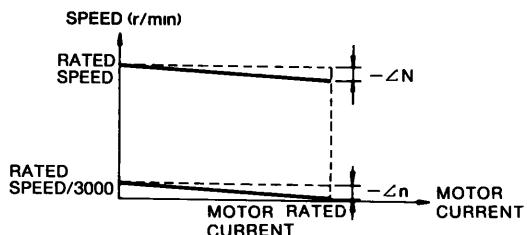

Fig 10.2 Speed Variation
- (2) Speed Variation (Fig. 10.2)